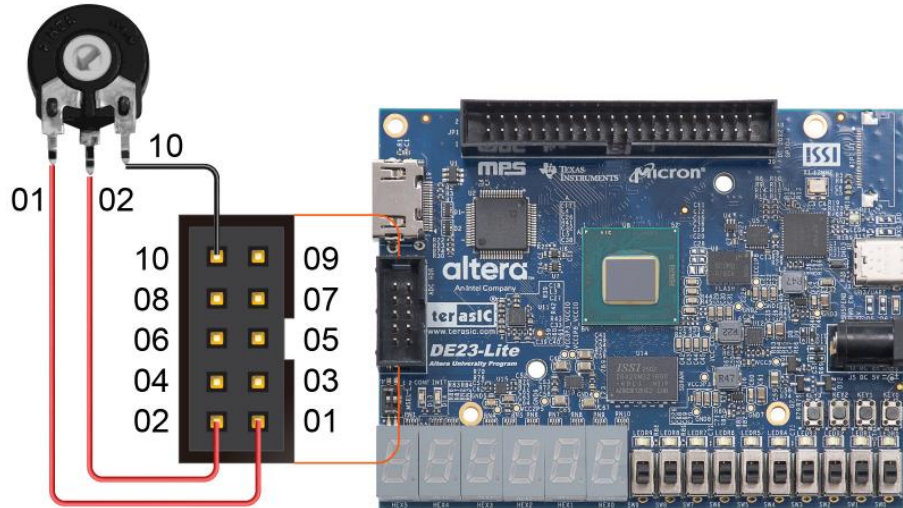

Figure 4- 14 Hardware setup for the ADC reading demonstration
9. Voltage measurements for all eight channels will be displayed on the NIOS Terminal, as shown in Figure 4- 15.